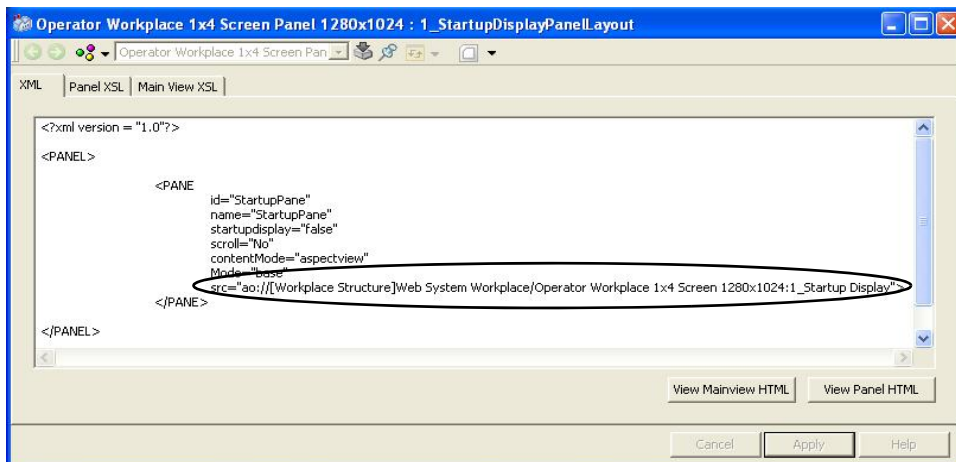

Figure 38. Panel Aspect - Multi-Screen Example
In each Panel Layout aspect you can type the path to your Startup Display aspect. See Figure 38.
4. The Application Bar aspect (located below the Large Workplace object) has a Fixed Display tab where you can decide which aspects should be visible in the Application Bar. The width of the aspects shown in the Application Bar can be set individually by configuring the “width%” column in the aspect view, see Fig 38.